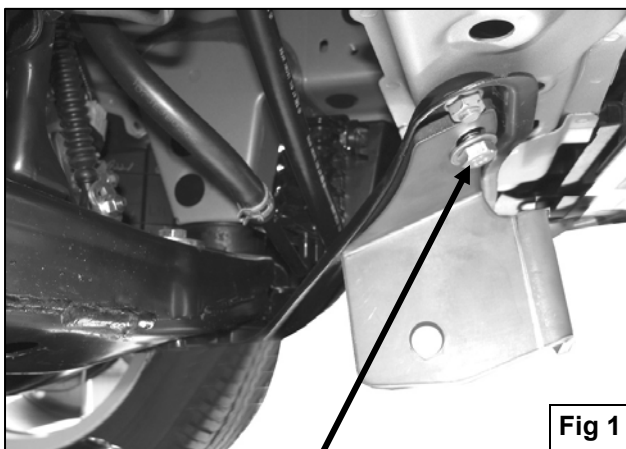

Fig 1
3. On the driver side of the vehicle, locate the two factory bolts on the cross member brace towards the bumper and remove the one towards the outside of the vehicle. Position the driver side Mounting Bracket up to the cross member brace. Partially hang Mounting Bracket to previously removed factory bolt location using the included (1) 10-1.25mm x 35mm Hex Head Bolt and (1) 10mm Flat washer (**Figure 1**).